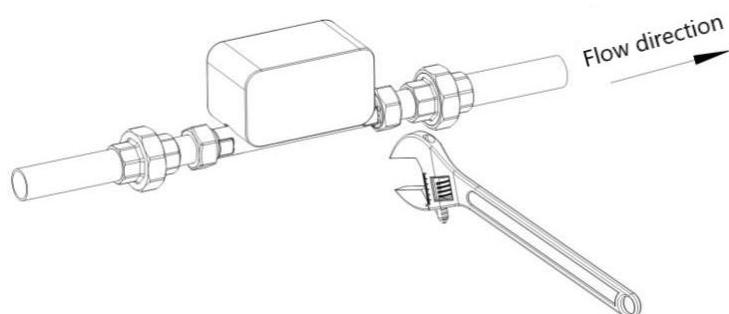

Figure 5-2-4 Meter Mounting Diagrammatic Sketch
- 3) Converse the instrument with the connecting accessories and install it, as shown in Figure 5-2-4.